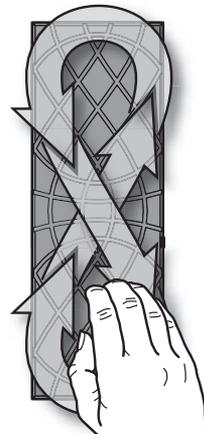

Figure 8: Figure-eight pattern.
- Use a figure-eight pattern. Regardless of the object being lapped, optimal results are achieved when the object is moved about the lap in a long, slow figure-eight pattern, as shown in **Figure 8**. This technique continuously redistributes the slurry around the lap, keeping it